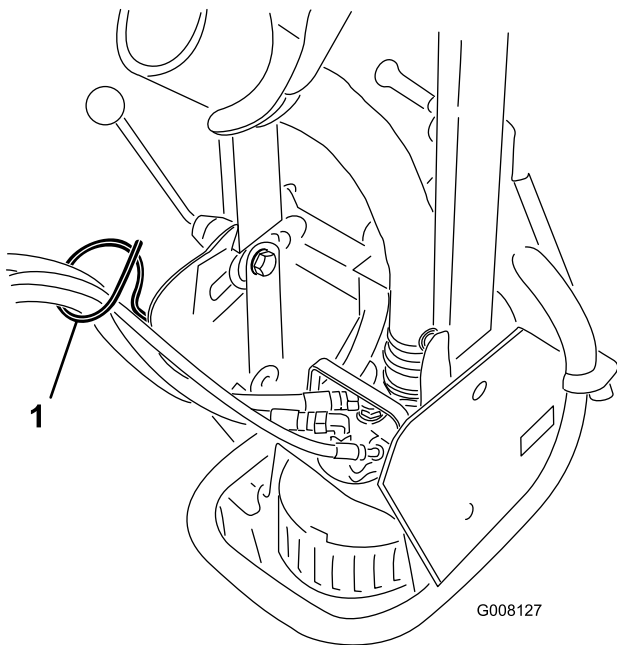

Figure 4
6. Plug the hydraulic hoses into the Sand Pro machine remote hydraulics. Position the hoses in the hose guide (Figure 4). Avoid kinks and sharp bends to the hydraulic hoses.